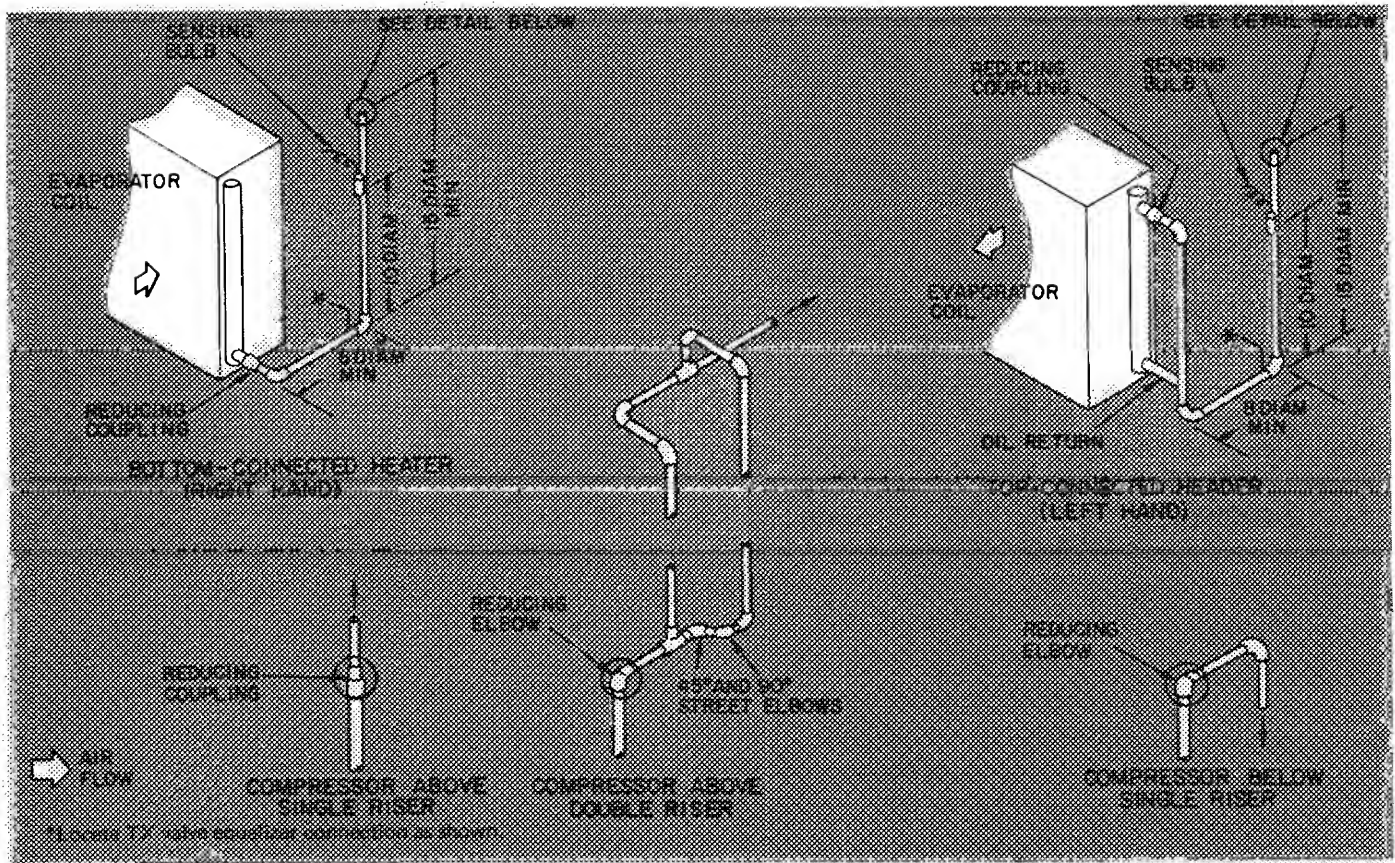

Fig. 14 – Suction Line Piping – Single Unsplit Coil
1. Connect suction piping per Fig. 14, 15 and 16.
2. Install expansion valve(s). Refer to Fig. 14, 15 and 16 for proper location of sensing bulb and equalizer connection.